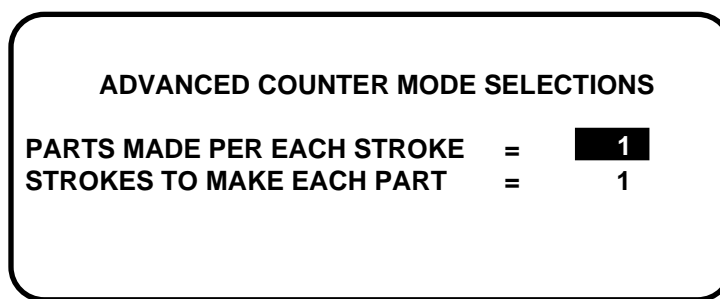

Figure 5-7. Advanced counter mode
1. From the Counter Mode Selections screen, press **F1** (ADV. MODES). The screen appears similar to Figure 5-7: